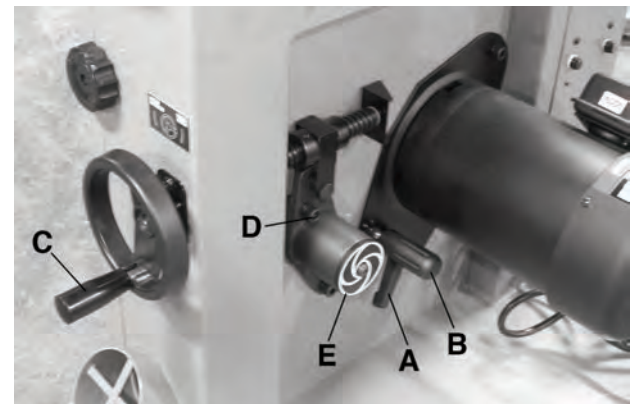
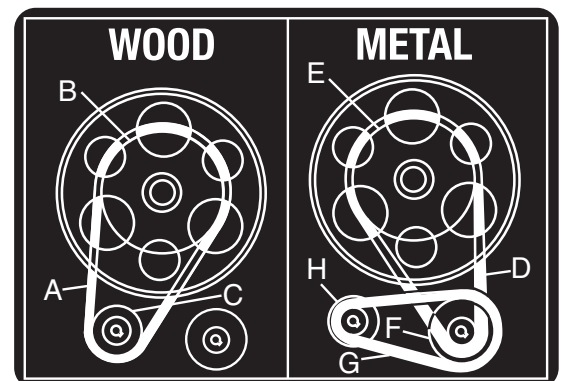

FIGURE 14
FIGURE 15
1. Loosen the drive belt tension by loosening the motor position lock handle (A) Fig.14. Lift the motor using the lifting handle (B) and retighten lock handle.
2. Only the long A44 drive belt (A) Fig.15 is required and gets installed on the main lower blade wheel pulley (B) and the large step of the motor drive pulley (C) as shown.
3. Loosen lock handle (A) Fig.14 and lower the the motor to tension the belt. Retighten the lock handle (A).
2. First, the A44 drive belt (D) Fig.15 (long belt) gets installed on the main lower blade wheel pulley (E) and the inner small step of the idle pulley (F). It may be necessary to loosen cap screw (D) Fig.14 and the idle pulley tension handwheel (C) Fig.14 before installing a belt.
3. The A28 belt (G) Fig.15 (short belt) gets installed on the small step of the drive pulley (H) and the large step of the idle pulley (F).
4. Loosen lock handle (A) Fig.14 and lower the motor to tension the drive belt. Retighten lock handle (A).
5. Turn the idle pulley tension handwheel (C) Fig.14 clockwise to tighten belt tension. Squeeze the A28 belt (G) with your hand. The belt should not move more than 1/8". Readjust tension if needed, once correctly adjusted, retighten cap screw (D) Fig.14 to secure belt tension.